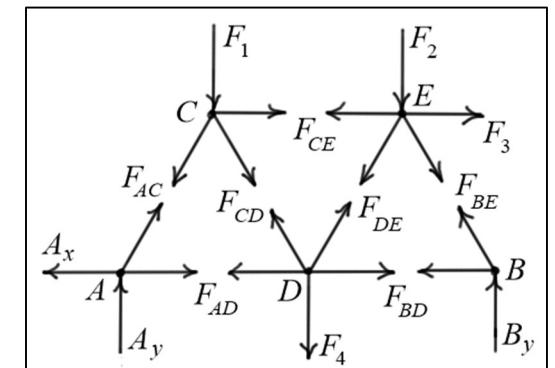

Fig. 3 Free Body Diagrams of all Pins
- **Tensile** forces *act away* from the pins. **Compressive** forces *act towards* the pins. All member forces in Fig. 3 are drawn as tensile forces.